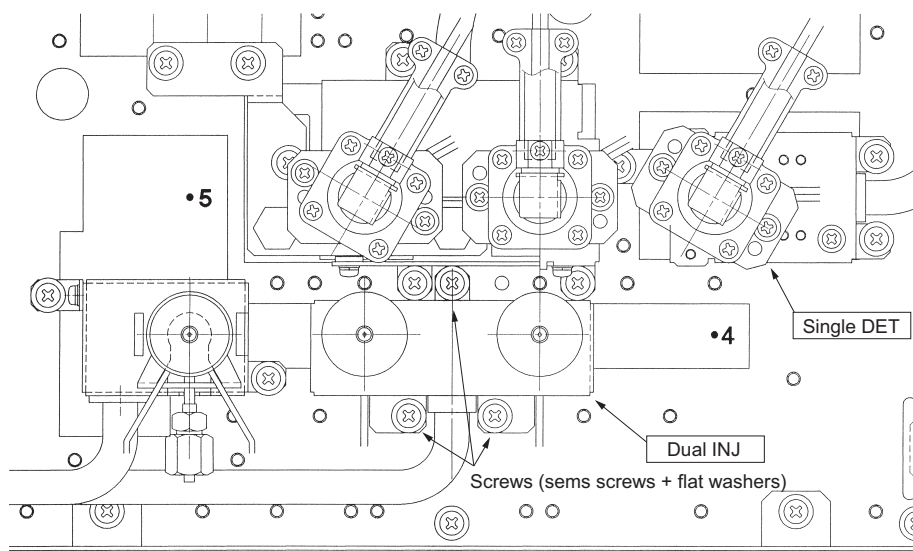

Fig.3.5.2 (a)
- (7) Cut out the heat insulator using a cutting knife, etc. as shown in Fig. 3.5.2 (a).